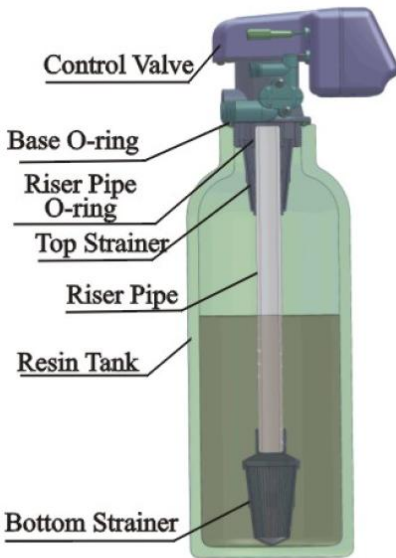

Figure1-1
- ① The filter or softener should be located close to drain.
- ② Ensure the unit is installed in enough space for operating and maintenance.
- ③ Brine tank need to be close to softener.
- ④ The unit should be kept away the heater, and not be exposed outdoor. Sunshine or rain will cause the system damage.
- ⑤ Please avoid to install the system in one Acid/Alkaline, Magnetic or strong vibration circumstance, because above factors will cause the system disorder.
- ⑥ Do not install the filter or softener, drain pipeline in circumstance which temperature may drop below 5°C, or above 50°C.
- ⑦ One place is recommended to install the system which causes the minimum loss in case of water leakage.
① Install control valve
a. As the Figure 1-1 shows, select the riser pipe with 26.7mm OD, glue the riser pipe to the bottom strainer and put it into the mineral tank, cut off the exceeding tube out of tank top opening. Plug the riser tube in case